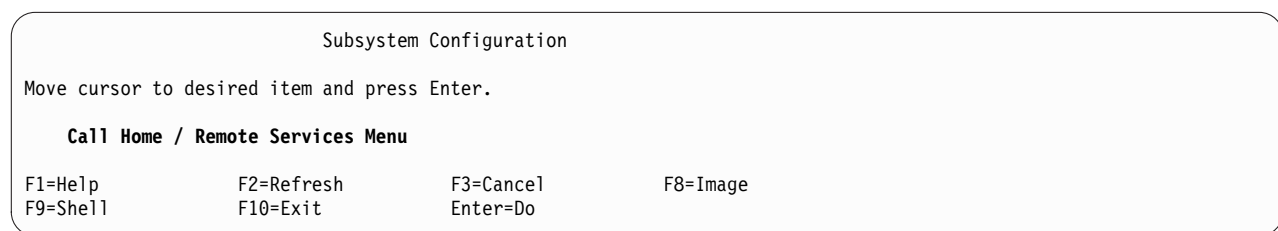

Figure 139. Subsystem Configuration Menu – Call Home / Remote Services Menu
- At Figure 139, select **Call Home / Remote Services Menu**, and press **Enter**.
Attention: Select the illustrated line item only at **Figure 139**. No other menu display items are applicable for this process.